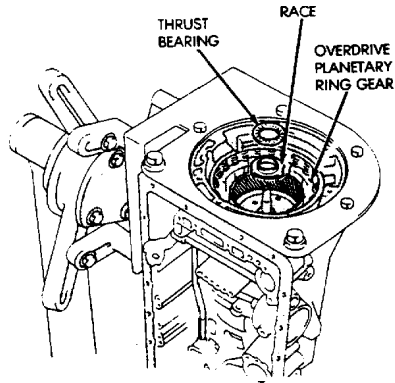

Fig. 19 Remove Bearing, Race And Planetary Ring Gear
(27) Remove thrust bearing, race and overdrive planetary ring gear (Fig. 19).
(28) Measure stroke length of overdrive brake piston as follows: